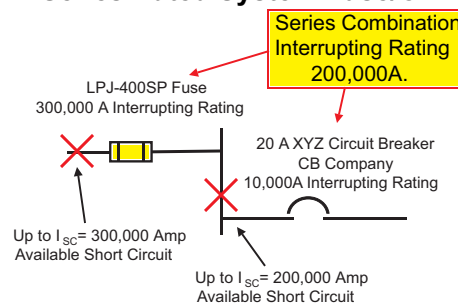
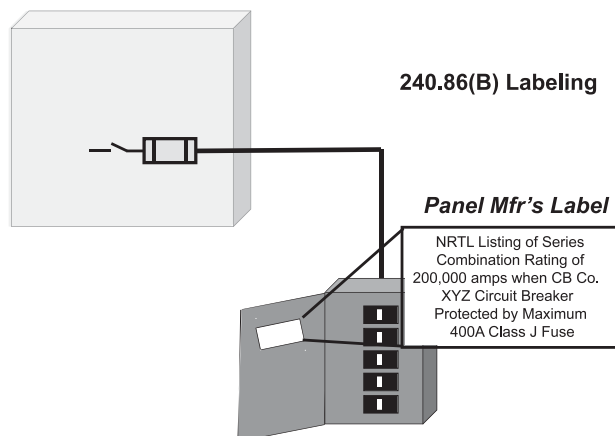

Figure 2
Figure 3
A series rated combination is a specific combination of circuit breakers or fuses and circuit breakers that can be applied at available short-circuit current levels above the interrupting rating of the load side (protected) circuit breaker, but not above the interrupting rating of the line-side (protecting) device. A series rated combination can consist of fuses protecting circuit breakers, or circuit breakers protecting circuit breakers. Figure 2 illustrates a fuse/circuit breaker series rated combination. There are unique requirements for series
Section 240.86(B) requires that, when a series rating is used, the switchboard, panelboard, loadcenter, or other equipment be marked by the manufacturer for use with the series rated combinations to be utilized. This indicates that the appropriate switchboard, panelboard or loadcenter assembly has been investigated for such use with the specific series rated combination. For instance, the series rated combination shown in Figure 2 is tested and marked for use in a particular manufacturer's panelboard type as shown in Figure 3. Notice in these two figures that the load side circuit breaker has an individual marked interrupting rating of only 10,000A. But with the series rated combination testing and marking, it may be possible to use it where 200,000A of available short-circuit current are available. Also, note that this rating applies to (1) a specific manufacturer's type and size circuit breaker, (2) when used in a specific manufacturer's type panelboard, switchboard line, or other equipment, (3) when protected on the line side by a specific maximum amp rating and class fuse and (4) the panelboard is factory marked with the necessary series combination rating specifics. The line side (protecting) fuse can be installed in the same panelboard or a separate enclosure.